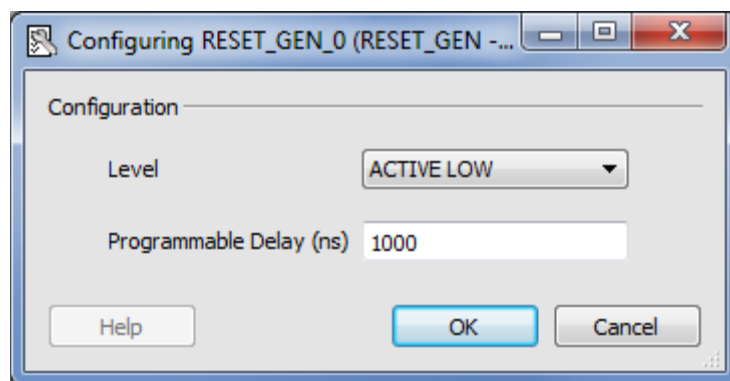

Figure 17. RESET_GEN Configuration
7. Open the **Reset_Generator** configurator by double-clicking **RESET_GEN_0** in the SmartDesign canvas. Ensure that the following information, as shown in Figure 17, is set in the **RESET_GEN_0** configurator and click **OK**: